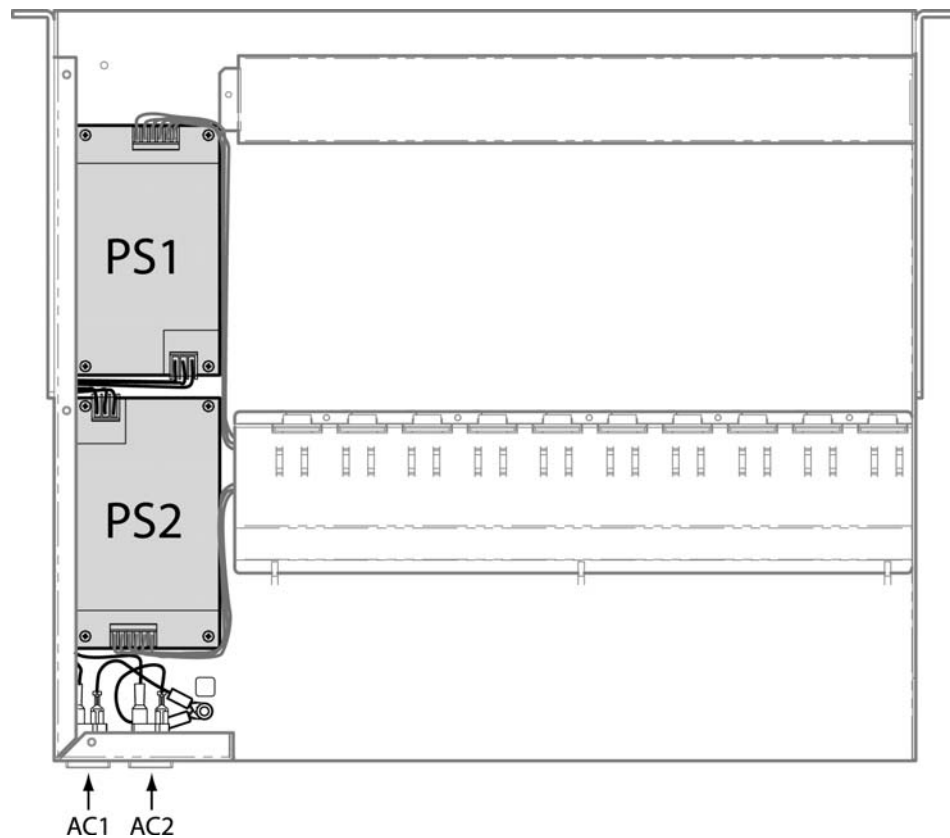

Figure 4.1 Failed Power Supply Location (top view of unit)
5. Figure 4.1 indicates the designated power supply for the PS-1 and PS-2 front panel LEDs.